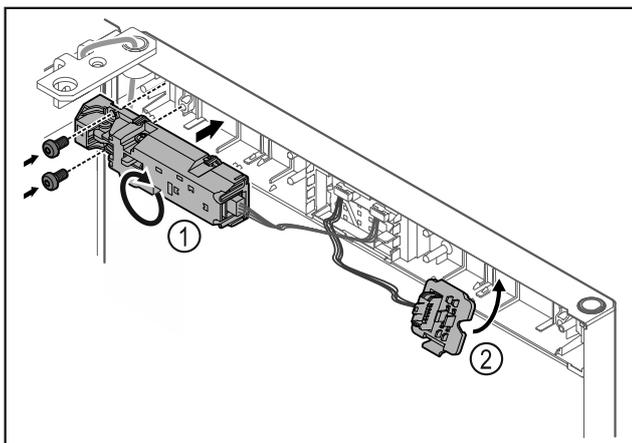

Fig. 23
- ▶ Turn the remote lock Fig. 23 (1) by 180° and fasten it on the opposite side.
- ▶ Snap in the plug holder Fig. 23 (2) on the opposite side.